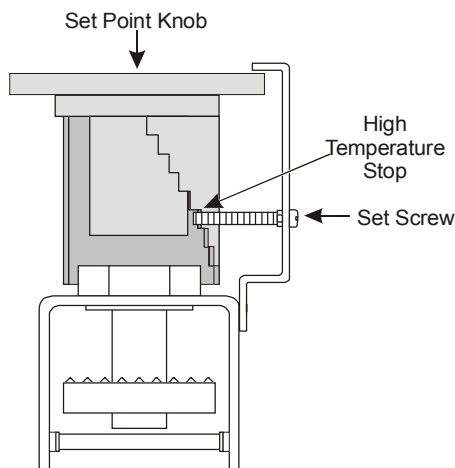

Figure 9: Setting the High Temperature Stop
If a high temperature stop is desired, refer to Figure 9 and follow the procedure described below.
1. Turn the thermostat dial so that the desired setting, minus one degree, is in line with the slot in the high temperature slot bracket, as shown in Figure 9. For example, to set the stop at 76°F (24°C), line up the 75°F (23°C) mark on the temperature dial with the slot.